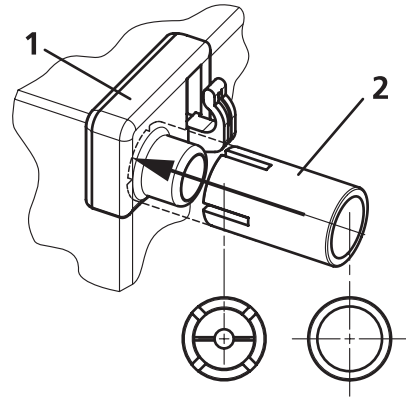

Fig. 1. Push Stopper (2) onto part (1) until the end
Set the limit stops in the upper corners of the back plate of the device as shown in Fig. 1. Stops (2) can be found in the drawer inside refrigerator compartment.